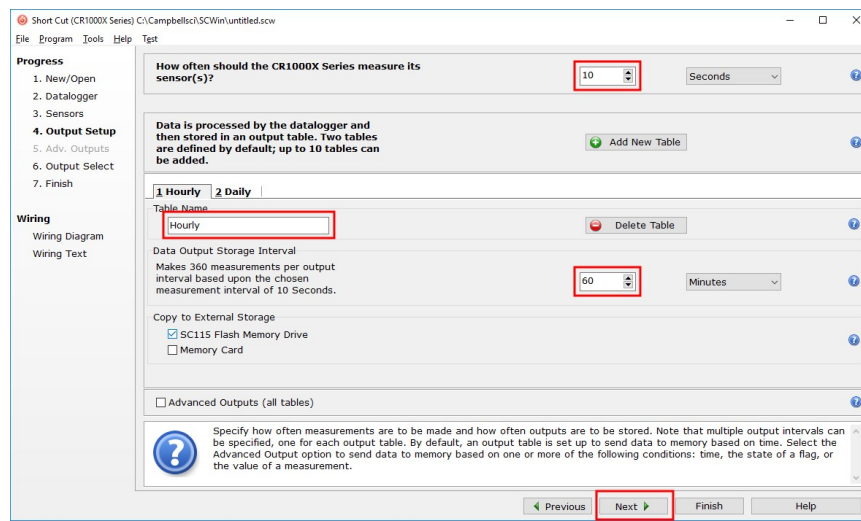

FIGURE 4-5. *Short Cut*, Output Setup
- In **Output Setup**, type the scan rate, a **Table Name**, and **Data Output Storage Interval** (FIGURE 4-5 (p. 5)). Click **Next**.